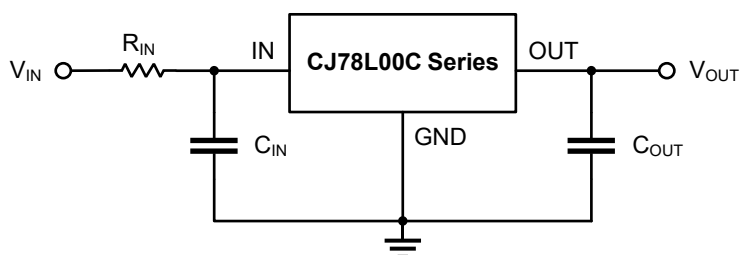

Figure 9-3. Resistance is used at IN
2. Place a resistor with appropriate resistance in series before the IN of the voltage regulator, which can help the voltage regulator share part of the energy in case of surge. The resistance value of the resistance should not be too large. The specific resistance value depends on the application of the circuit. Generally, the resistance value of this resistance does not exceed 20Ω . As shown in Figure 9-3.
The CJ78L00C series can obtain better transient response with the help of output capacitance. However, if the output capacitor is relatively large, the surge current generated by the charging of the output capacitor will also be large at the moment of power on of the regulator, and the large surge current passing through the regulator may damage the internal circuit. When the output capacitance is large, adopting the circuit design shown in Figure 9-3 will reduce the possibility of damage to the device due to large surge current to a certain extent. It is recommended that the selection of output capacitor should not exceed $20\mu\text{F}$. **If the selection of output capacitor exceeds $20\mu\text{F}$, it is recommended to adopt the circuit design in Figure 9-3 to reduce the possibility of accidental failure of the device due to large surge current during power on.**